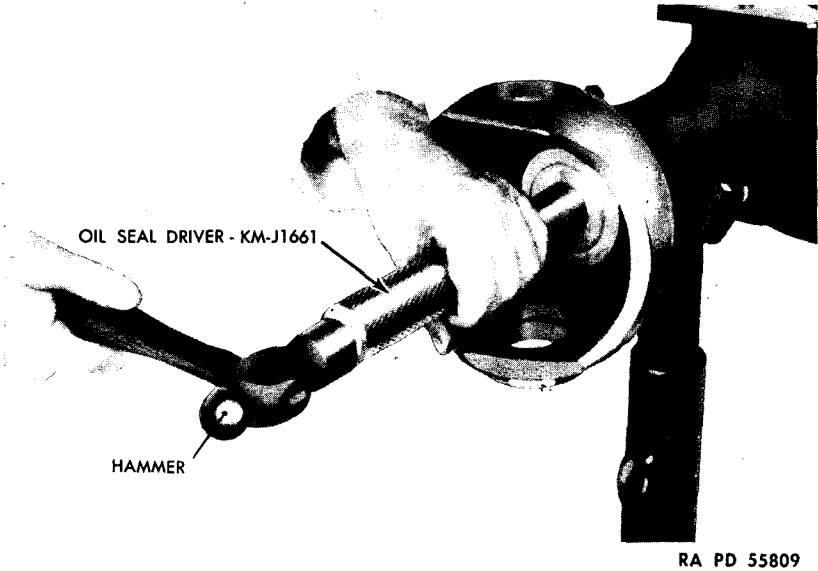

Figure 17—Installing Axle Shaft Oil Seal
(2) **INSTALL AXLE SHAFT OIL SEAL** (fig. 17).